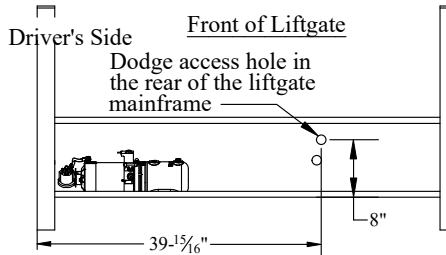

Figure 15: Spare tire access.
2. **Remove and Discard** the black plastic plug from the mainframe at the location shown (Figure 15).